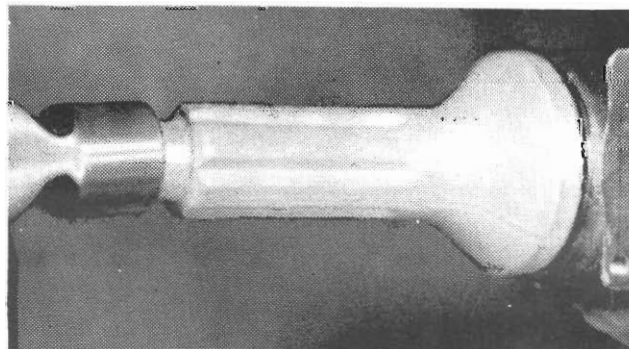

Fig. 27 - Installing pinion oil seal (Tool E3C10L)
(5) When preload is correct, remove the nuts and yoke.
(6) Apply a thin film of sealing compound to the inner bore of the carrier in the area of the pinion seal.
(7) Install pinion oil seal (lip toward the pinion head) with driver Tool E3C10J (*see Fig. 27*).